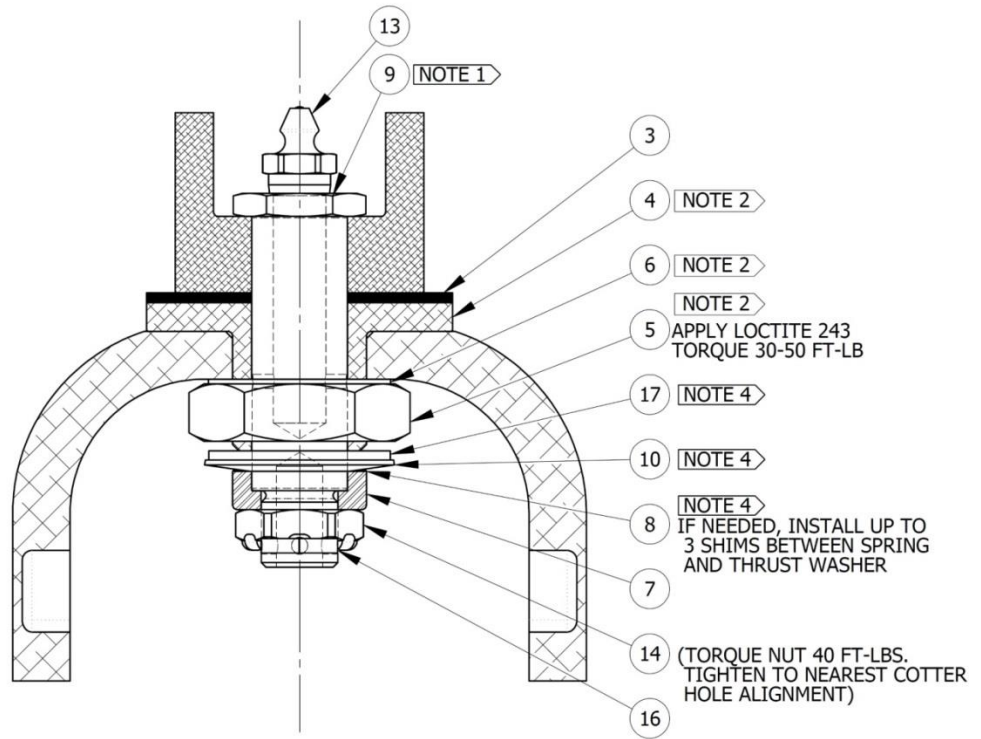

Figure 2
- 1) Replace 15-42105 Pivot Pin with 15-42114 Pivot Pin and 15-42109 Bushing, Nose Fork (Fig. 2). Note: Press 15-42114 Pivot Pin into 15-42104 Gear Arm. Orientation is optional.
- 2) Press fit 15-42109 Bushing into 15-42101 Nose Fork (Fig. 2).
- 3) Install 15-42111 Spacing Washer, then 15-42110 Bushing Nut, with Loctite 243 and torque to 40 ft.-lb. (Fig. 2).